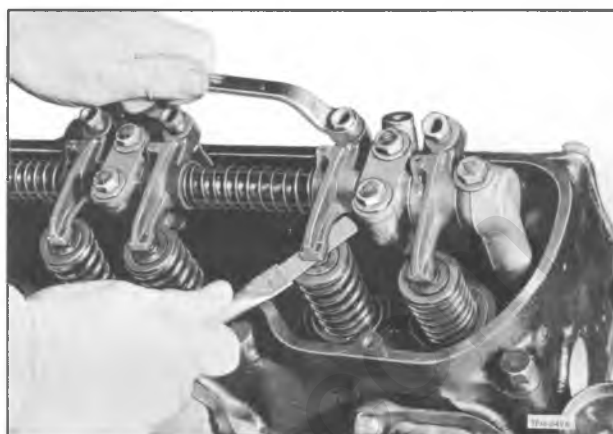

Figure 16—Adjusting Valve Clearance
3. Using feeler gauge and box end wrench (fig. 16), set exhaust valve clearance at 0.018-inch and intake valve clearance at 0.012-inch.